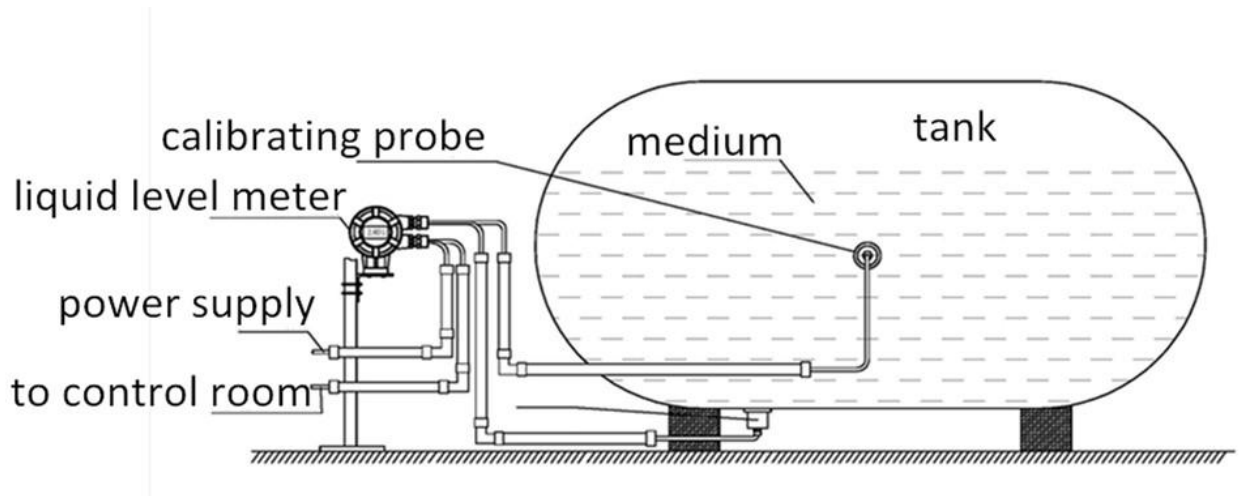

Fig.7-4 Ultrasonic Probe Installation on Horizontal Tank
- It is better to install the measuring probe of the meter at the lowest point of the bottom of the tank, and it should be perpendicular to the liquid surface. The calibrating probe should be installed at the midpoint of the height and length (See Fig. 7-4).